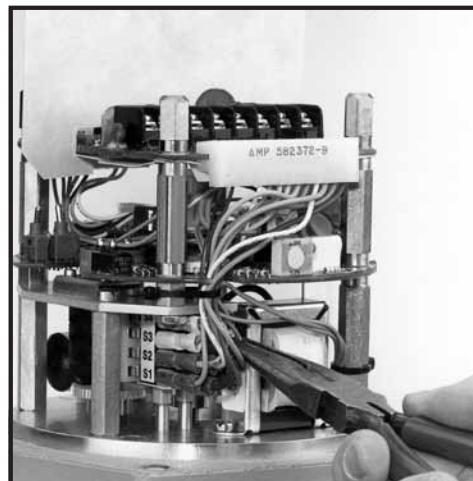

Figure 6
2. To reverse the output shaft direction of travel, the wires to the common terminals of travel limit switches S3 and S4 must be interchanged. The common terminals are those located furthest from the switch labels and nearest to the power transformer (see Figure 6).